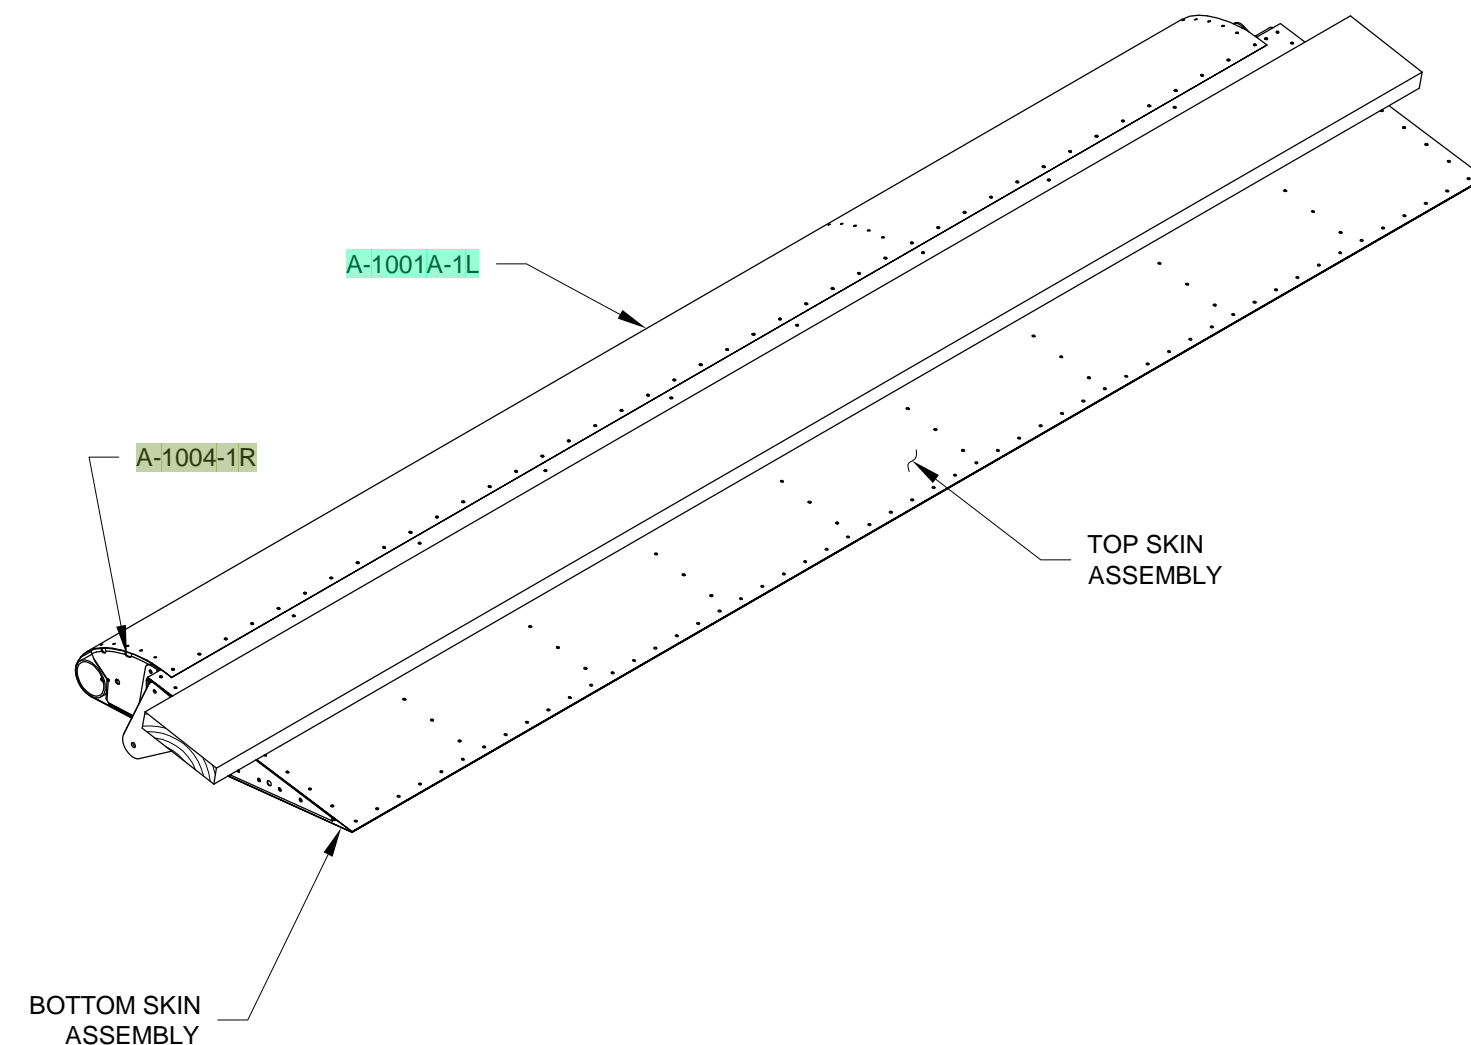

**FIGURE 1: FITTING ASSEMBLY**
Step 1: Lay the assembly flat on the table top hanging the clecos which are holding the A-1001A-1L Nose Skin to the A-1002-1 Bottom Skin and A-1003-1L Spar over the edge. Use weights over the main ribs to keep it firmly against the table with no twist. A straight board can be used to distribute the weight and hold the aileron flat to the table. See Figure 1.